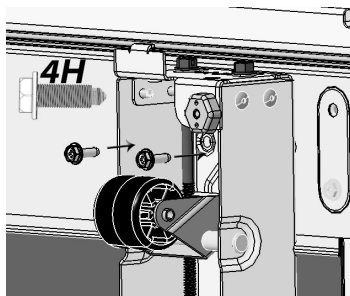

Fig. 5
- c. Using the 4H bolts from step 1, fasten the front of the Leveler Assembly to the refrigerator/freezer using a  $\frac{5}{16}$ " nut driver (Fig. 5).